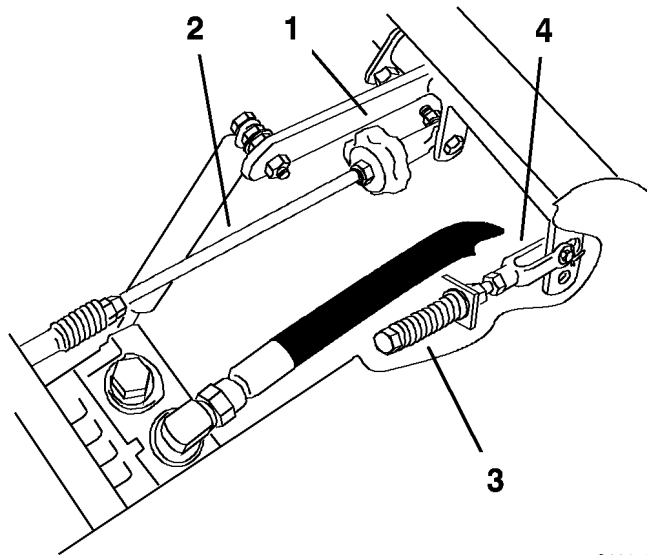

Figure 67
2. Adjust the pump rod length by rotating the knob, in the appropriate direction, until the wheel is still or slightly creeping in reverse (Figure 67).